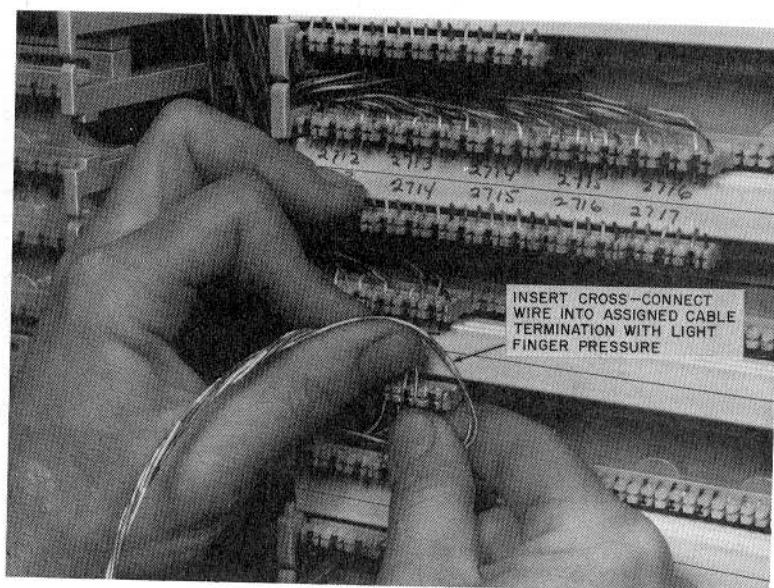

Fig. 24—Inserting Cross-Connect Wire
3.19 Insert the F-type, 24-gauge cross-connect wire into the connecting block slots as shown in Fig. 24. Light finger pressure is sufficient to insure retention of the wire in its proper location. **Leave 2 inches of slack in the wire for tracing and repairing.** Cross-connect wire may be routed through either fanning strip for shortest wire runs.